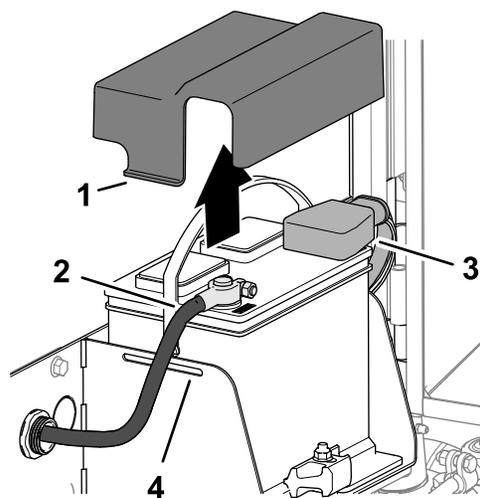

Figure 97
3. Press the sides of the battery cover, and remove the cover from the battery tray (Figure 97).